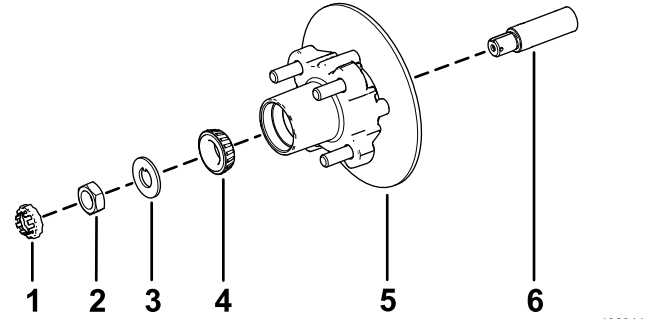

**Figure 33**
1. Remove the outboard bearing and bearing race from the hub (Figure 33).
2. Remove the seal, inboard bearing from the hub (Figure 33).
5. Clean the cavity of the hub of all grease, dirt, and debris (Figure 33).
7. Fill the cavity of hub 50 to 80% full of the specified grease (Figure 33).
8. Assemble the inboard bearing onto the race at the inboard side of the hub and install the seal (Figure 33).